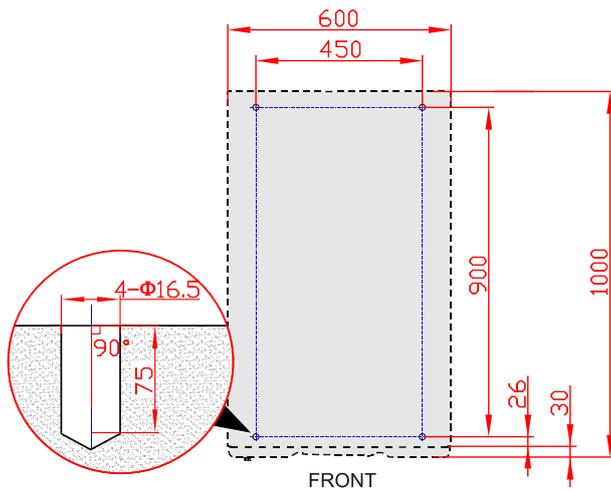

Figure3-17 Bottom installation size (bottom view of pedestal)
- Step 2 Drill 4 holes of  $\Phi 16.5$  by hammer drill according to the installation size of pedestal (as shown in Figure3-17).